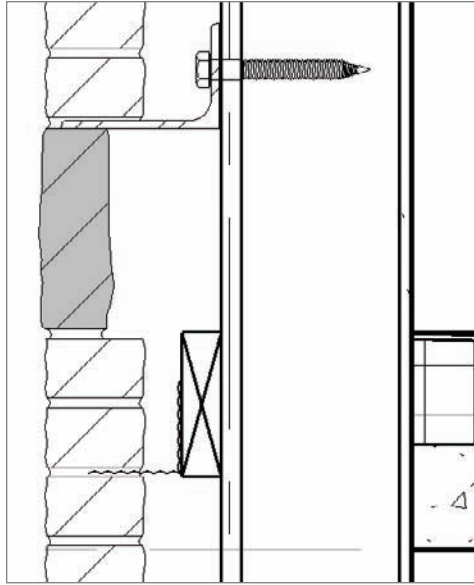

FIGURE 12.41 Placing the corrugated wall tie
7. Use the Detail Component button to place the wall tie into your model, as shown in Figure 12.41.